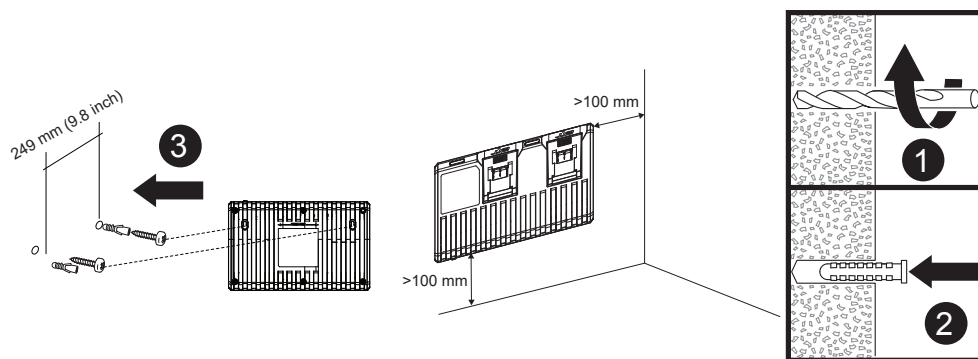

Fig. 1
Install two screws (not supplied) at a spacing of 249 mm (9.8 inches) on the wall, and then hang the charger onto the screws through the two wall mounting holes on the back of the charger (1). Ensure to keep a minimum distance of 10 cm between the appliance and walls or other objects on all sides to ensure proper air circulation (Fig. 1).